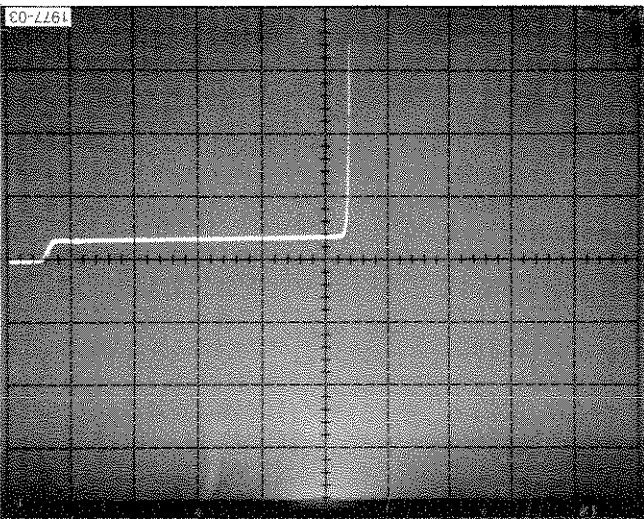

Fig. A-3. Check of LM324 + input bias current.
b. Check that the vertical deflection is  $\leq 5$  divisions from graticule center ( $\leq 500$  nA, see Fig. A-3). Change the VERT UNITS/DIV switch setting if better resolution is needed.